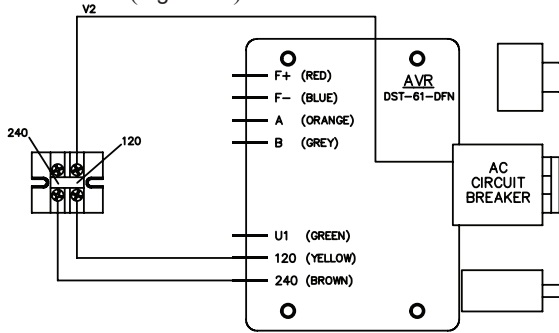

Figure 26: Control Terminal Board, 120 Volt Output
- a. 120 volt output can be selected by connecting the terminals of the control terminal board to 120 (Figure 26).